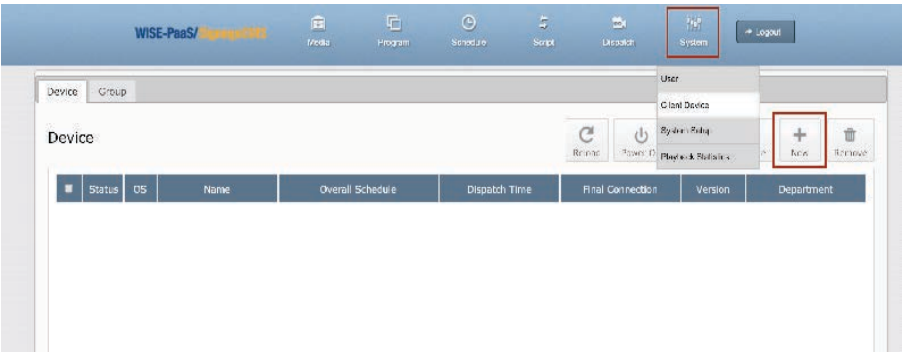

Figure 10
- Step 1. Open the server system interface installed on the server device. Select the Client Device option in the dropdown menu, then click the [New] button at the top right corner of the interface (as shown in Figure 10).